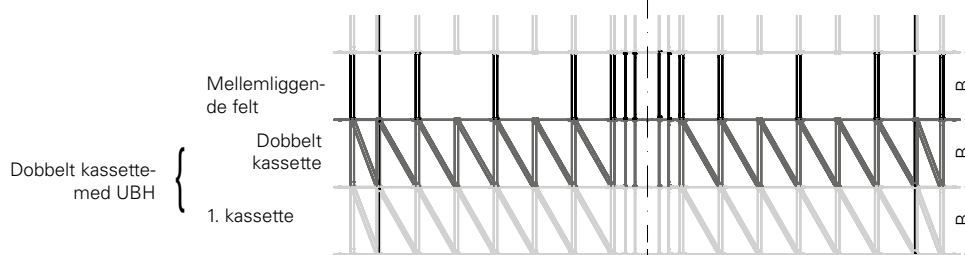

Fig. B1.05b
- dobbelt kassette (fig B1.05b)